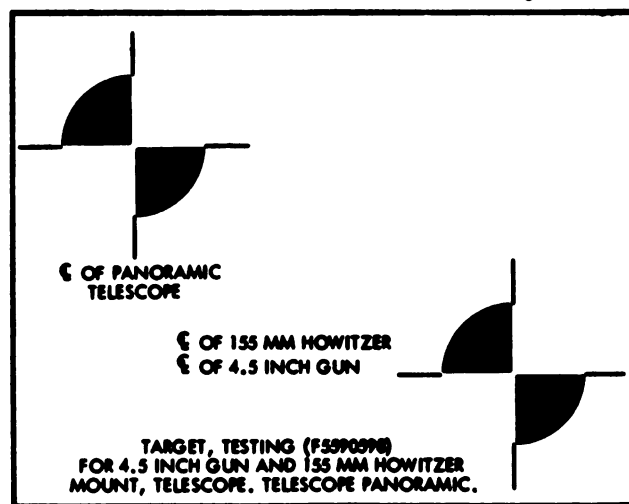
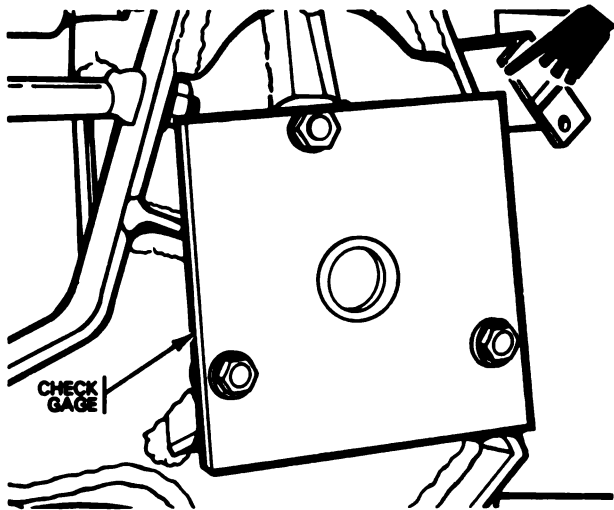

Figure 80. Bore sighting target for bore sighting 115-mm cannon on 115-mm howitzer carriage M1A1 or M1A2.
Figure 80.5. Check gage installed on mounting pads.
*c. Bore Sighting Target Method.* Where conditions of terrain or visibility are such that the distant aiming point method cannot be used, the weapon may be accurately bore sighted by using a bore sighting target (fig. 80). It is essential that the proper bore sighting target is used for the weapon being bore sighted. Use bore sighting target 6920-00-559-0598 for the 155-mm howitzer. With this method, it is necessary to level the trunnions of the howitzer by tracking a plumb line with the bore sights of the gun tube.
- (l) Position the target (fig. 80) 50 yards from the end of the gun tube. Move the target until the bow-tie aligns with the vertical crosshair and plumb line. Adjust target elevation with the gun tube at 0-mil elevation.
(2) Leveling telescope mount.
- (a) Install the check gage (fig. 80.5) securely on the mounting pads of the howitzer carriage, using the mounting screws, washers, and nut provided with the telescope mount.